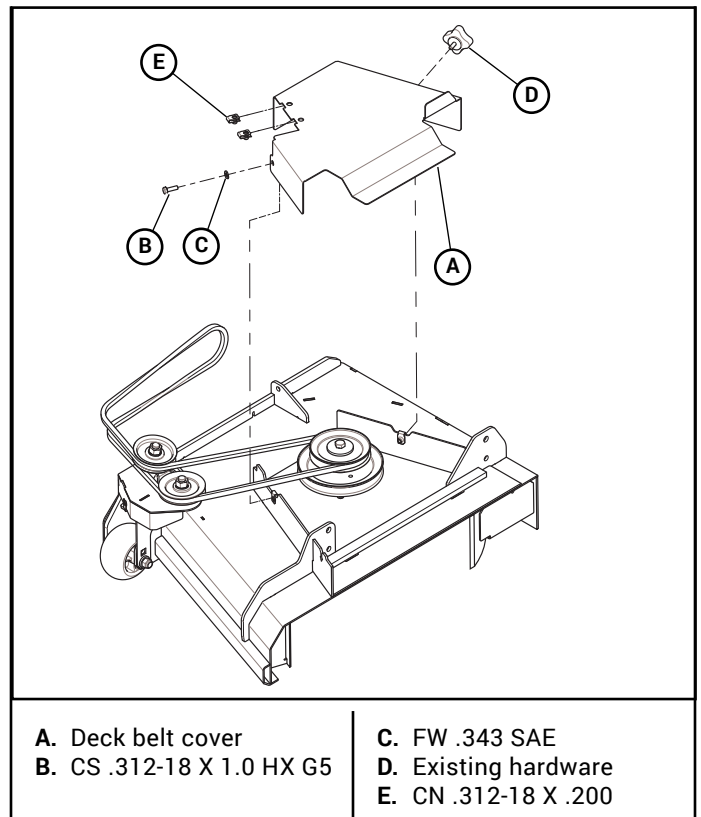
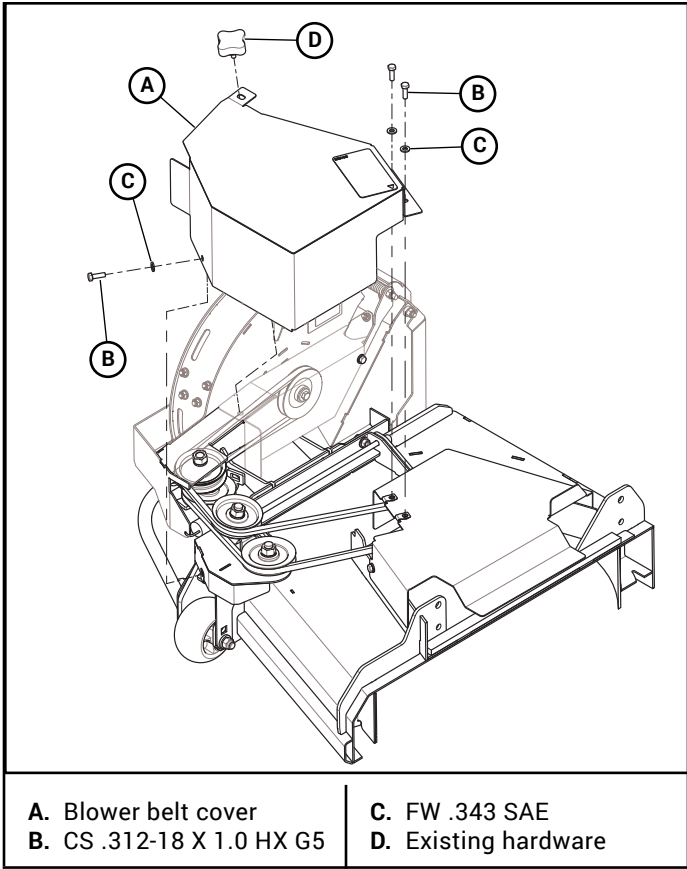

Figure 3-13
Figure 3-14
13. Attach the clip nuts to the deck belt cover. Figure 3-13
14. Attach the deck belt cover and the blower belt cover. Figure 3-13 & Figure 3-14